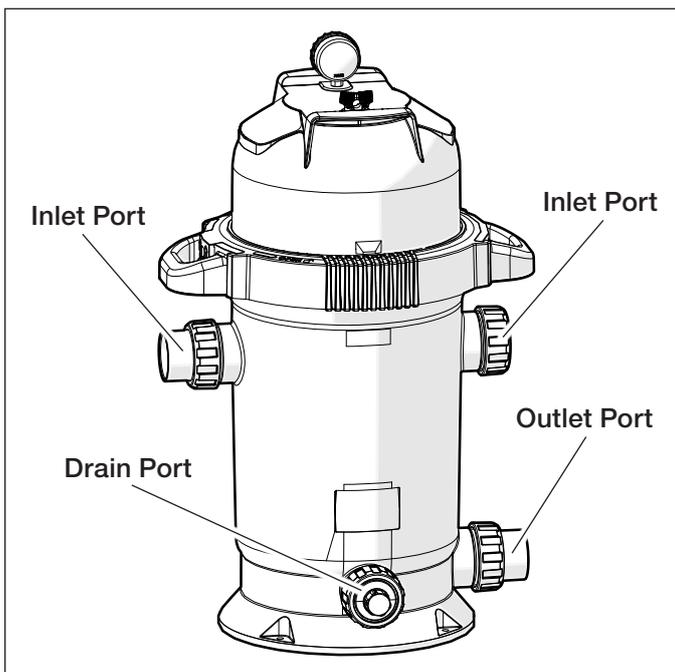

Figure 4. Filter Ports
4. The ZXC-series filter has four ports in total - two inlet ports (from pump), one outlet port (to pool/spa) and one drain port (Figure 4).